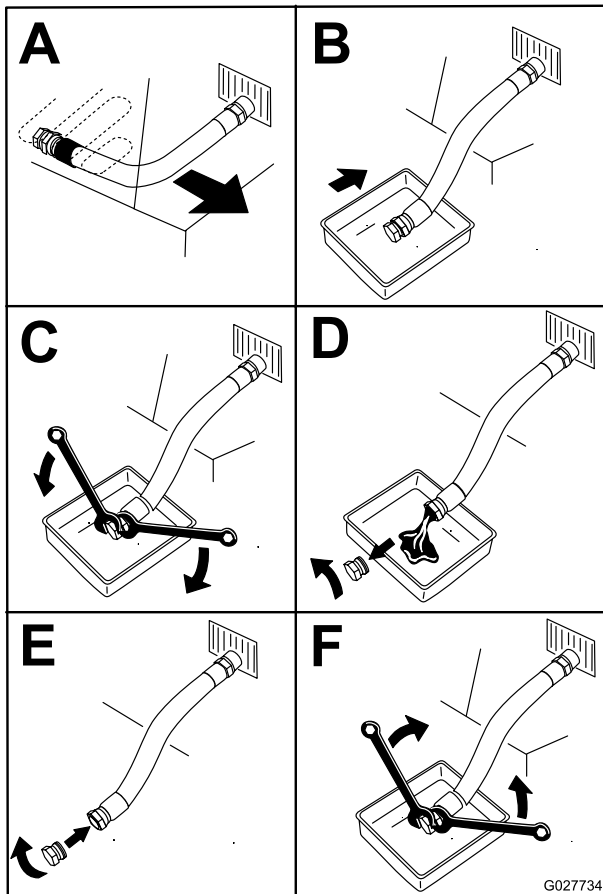

Figure 45
4. Shut off the engine, remove the key, and wait for all moving parts to stop before leaving the operating position (Figure 45).